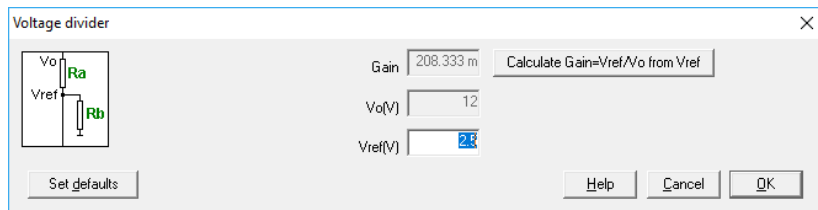

Figure 6: outer loop sensor
- a) Sensor: select a voltage divider sensor. See Figure 6.